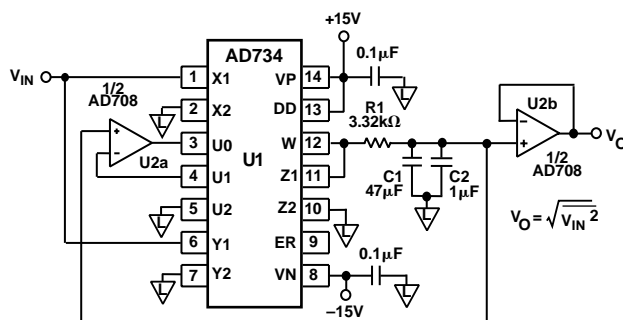

Figure 15. A 2-Chip, Wideband RMS-DC Converter
using its direct divide mode. Figure 15 shows the circuit.
In Figure 15's circuit, the AD734 squares the input signal, and its output ( $V_{IN}^2$ ) is averaged by a low-pass filter that consists of R1 and C1 and has a corner frequency of 1 Hz. Because of the implicit feedback loop, this value is both the output value,  $V_{RMS}$  and the denominator in Equation (13). U2a and U2b, an AD708 dual dc precision op amp, serve as unity-gain buffers, supplying both the output voltage and driving the U interface.